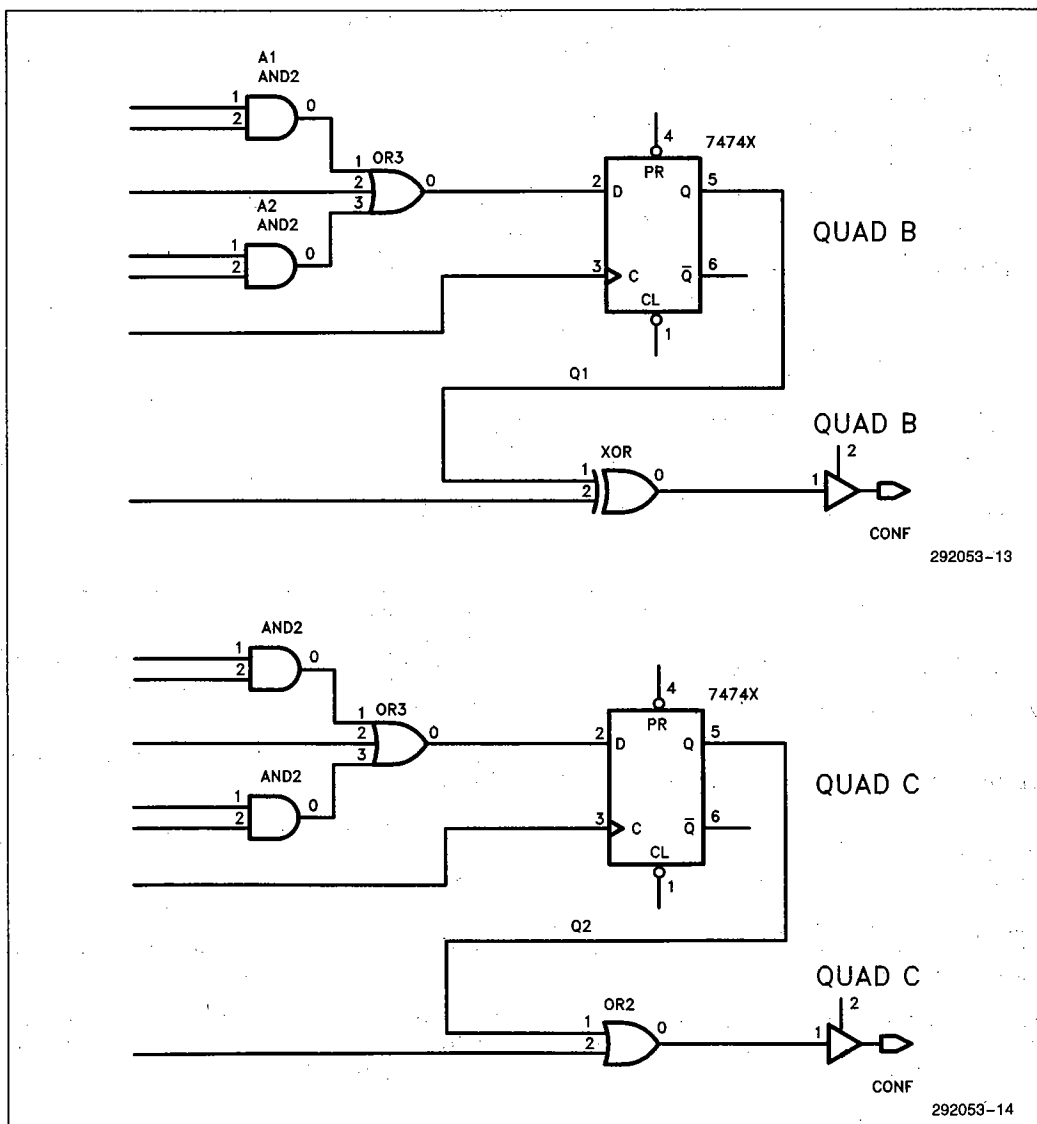

Figure 9. Not Enough Global Feedback Extra Macrocells—Fit
**TRICK:** Duplicate the macrocell logic that needs to be global in two (or more) regions with appropriate renaming (see Figure 9).